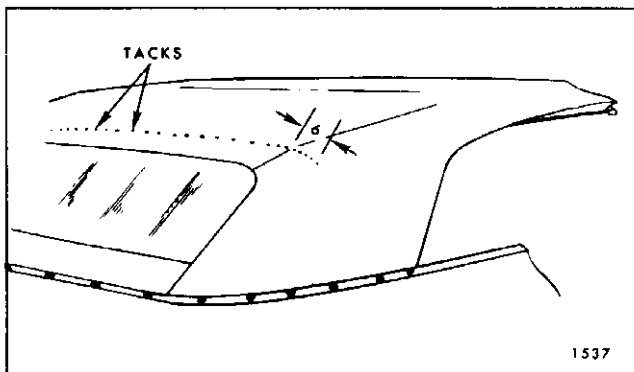

Fig. 13-42 — Tacking Outboard of Seams
**IMPORTANT:** Tacks must be installed along a straight line in center of rear bow. (See Fig. 13-42). Tacks outboard of deck seams should be restricted to distance not to exceed six
inches, which is length wire-on binding extends past seam (Fig. 13-42).